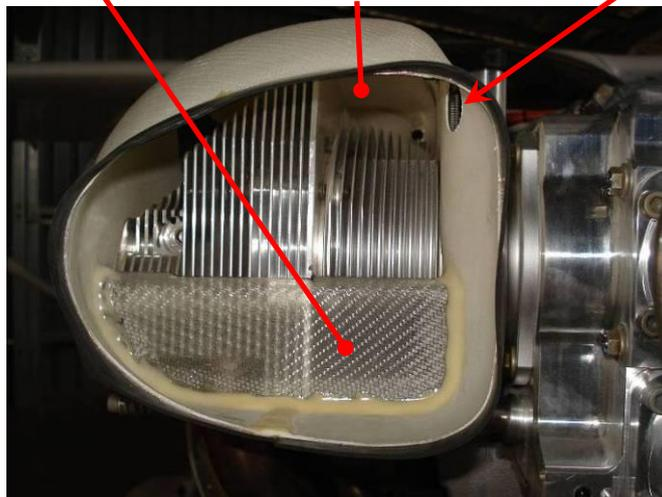

Figure 53. Front-On View Into Ram Air Duct
- Most of the time, air leaking through gaps instead of flowing through a cylinder head, oil cooler or similar is waste air – it does not transfer heat and does not cool the engine. Sometimes air leaking through controlled gaps – such as the holes in the front of the ram air ducts (Figure 53) or the gaps between cylinders – can have beneficial effects. However, it is recommended that gaps around the engine and oil cooler be closed as a starting point.
- The completed baffle is shown in Figure 53.